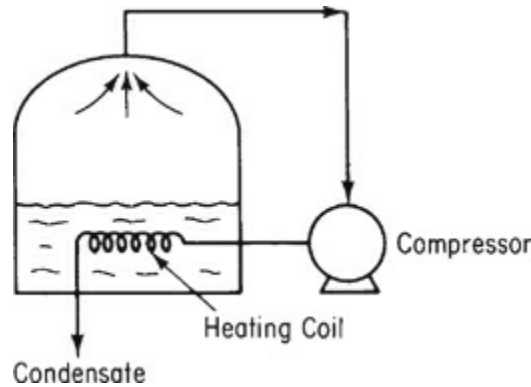

Figure P8.6.10
- ***8.6.10 In the vapor-recompression evaporator shown in Figure P8.6.10, the vapor produced on evaporation is compressed to a higher pressure and passed through the heating coil to provide the energy for evaporation. The steam entering the compressor is 98% vapor and 2% liquid, at 10 psia; the steam leaving the compressor is at 50 psia and 400°F ; and 6 Btu of heat are lost from the compressor per pound of steam throughput. The condensate leaving the heating coil is at 50 psia, 200°F .